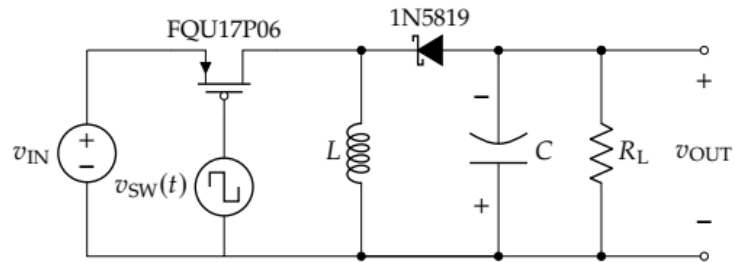

Figure 10.11: An inverted boost converter circuit.
2. Construct the circuit in figure 10.11 using the above values. Recall that for the PMOS switch, $D_{SW} = 1 - D_{FG}$. Also ensure that any electrolytic capacitors are installed in the correct polarity, as shown in figure 10.11.